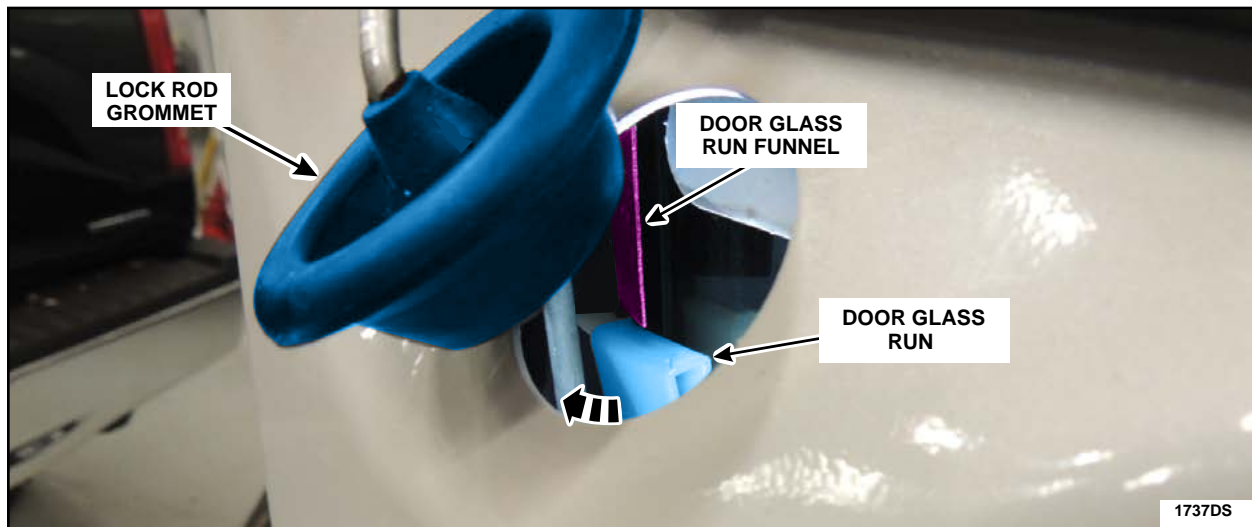

FIGURE 24
13. Unseat the front door lock rod grommet and visually confirm that the funnel is in the correct position and then reinstall the front door lock rod grommet. See Figure 24.